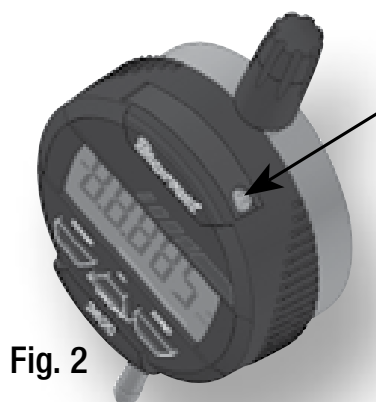

Fig. 2
- The battery tray/door is at the top of the indicator and is fastened with a fillips head screw pointed out in Fig.2